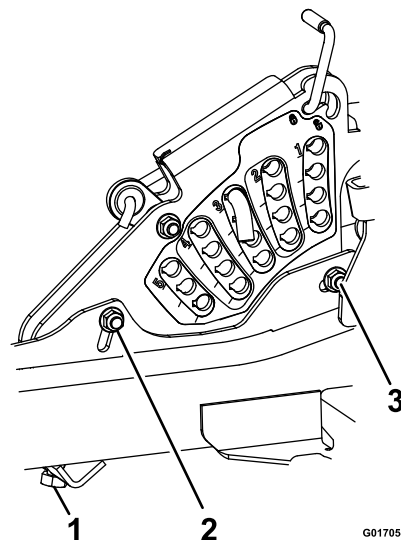

Figure 58
14. If the four deck adjusters do not have enough adjustment to achieve accurate cut height with the desired rake, the single point adjustment can be utilized to gain more adjustment (see Figure 58).